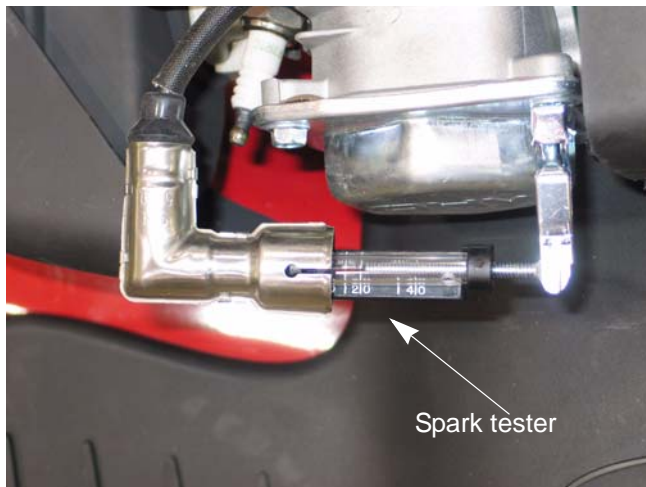

Figure 7.1
- 2c. Connect the other end of the spark tester to the engine block. See Figure 7.1.